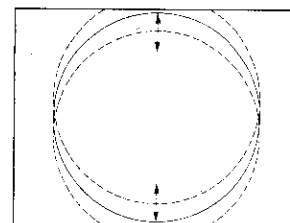

fig. 8
- Adjust the vertical size to obtain overscan (fig. 8).